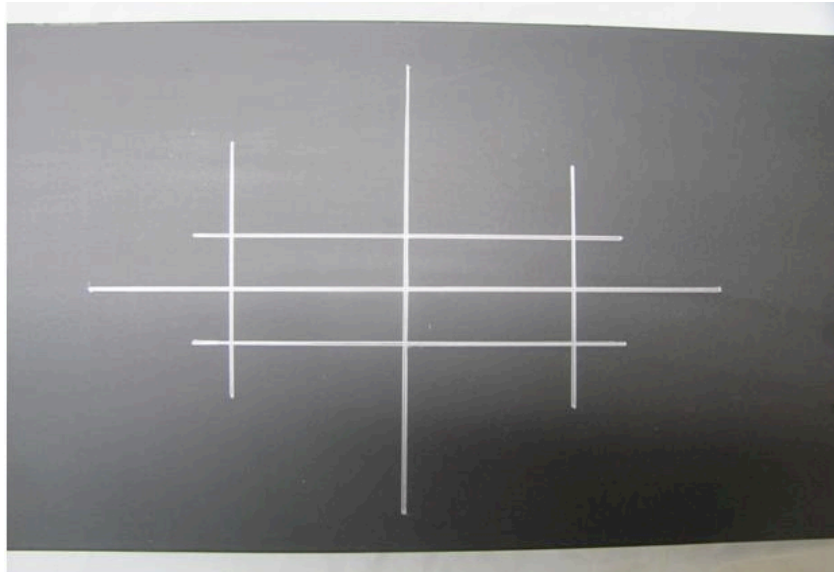

Figure 10: Tiltmeter Location Marked for 4 Tabs
- To complete the locating sequence, make two marks at approximately 1.8 in (46 mm) on either side of the transverse centerline and two marks at 0.6 in (15 mm) above and below the longitudinal centerline as shown in Figure 10. An alternate way of marking these locations is to hold the tiltmeter in place over the two centerline marks and making small marks where the tabs will be installed, then use a T-square to complete tab marking.